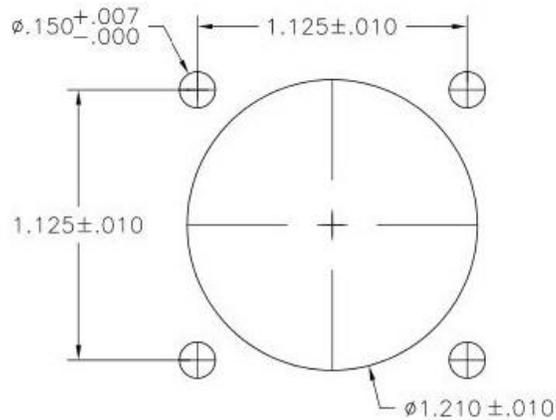

Figure 28 - JAC3 Cutout Dimensions
- 5) Remove the port side bracket that holds the rear trim piece by drilling out the two rivets that connect it to the back wall of the Hat Rack. Seal the upper rivet hole. Align AC-01694 Cutout Template inside the Hat Rack over the lower rivet hole using the template hole marked with the arrow. Match drill the holes from the template through the back wall with a #40 and a $\text{Ø}1.000$ " drill taking care not to cut into any items on the other side of the wall. Install the 382600-MBA Bulkhead Fitting with the #10 ports on the bottom. Drill holes for the JAC3 Connector from the Electrical Junction Harness (either AC-01729 for CB-2 controller or AC-01750 for A1235 controller) per Figure 28. Attach the JAC3 Connector with (4) MS35206-228 Screws, (4) AN960-6 Washers and (4) AN365-632A Nuts.